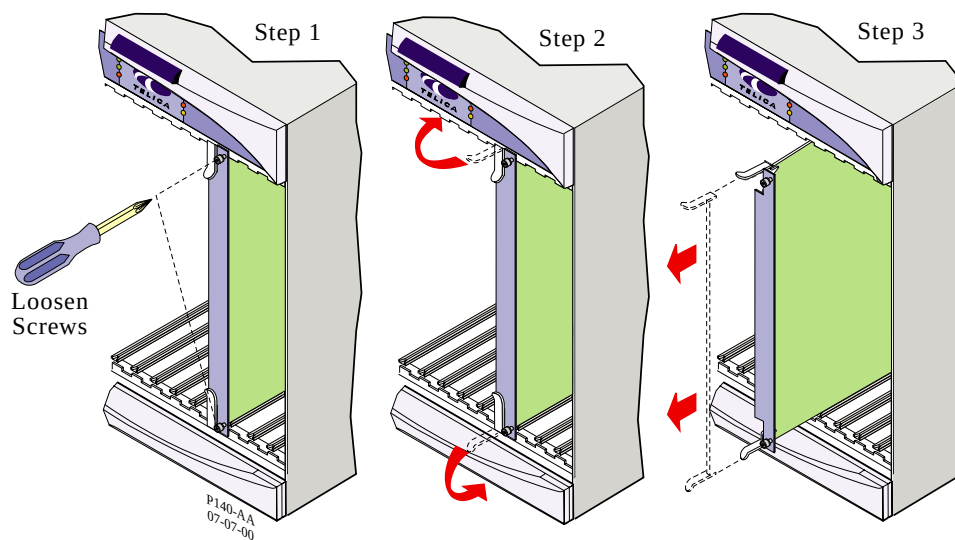

Figure 2. Removing a Module
10. Pull the extractor handles to a horizontal position as illustrated in Figure 2. This disconnects the module from the equipment midplane connector.
11. Pull the module straight out of the slot, and remove it from the cage as illustrated in Figure 2.